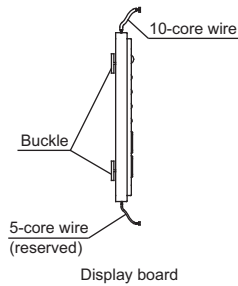

Fig. 22 —LED Display Panel
1. The display panel has buckles on the bottom that are used to secure it to the control box, see Fig. 22.